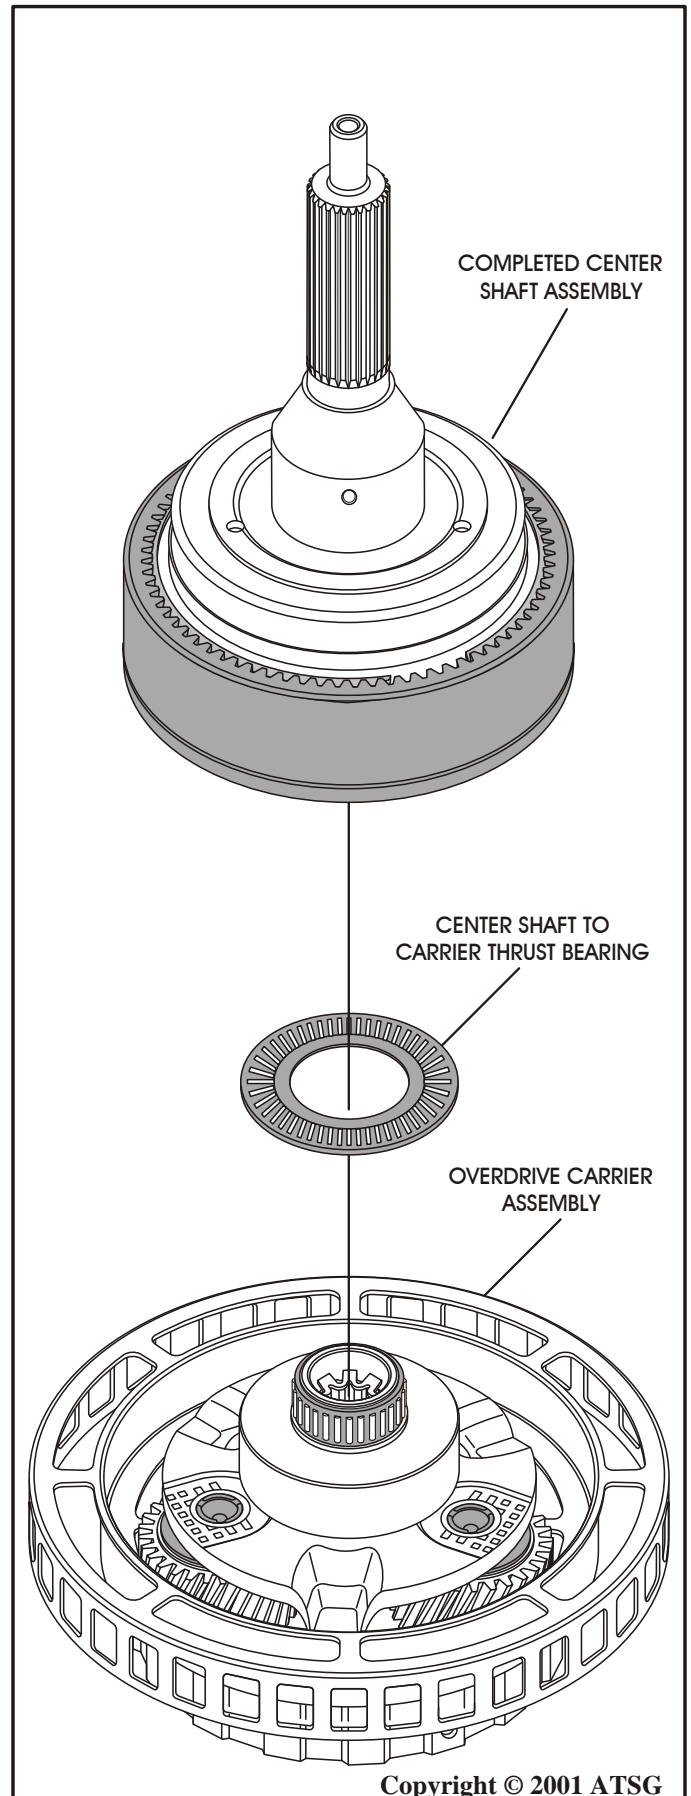

Figure 72
5. Install thrust bearing onto overdrive carrier, as shown in Figure 72, and retain with a small amount of Trans-Jel®.
6. Install completed overdrive center shaft onto the overdrive carrier by rotating shaft counter clockwise as you install (See Figure 72).